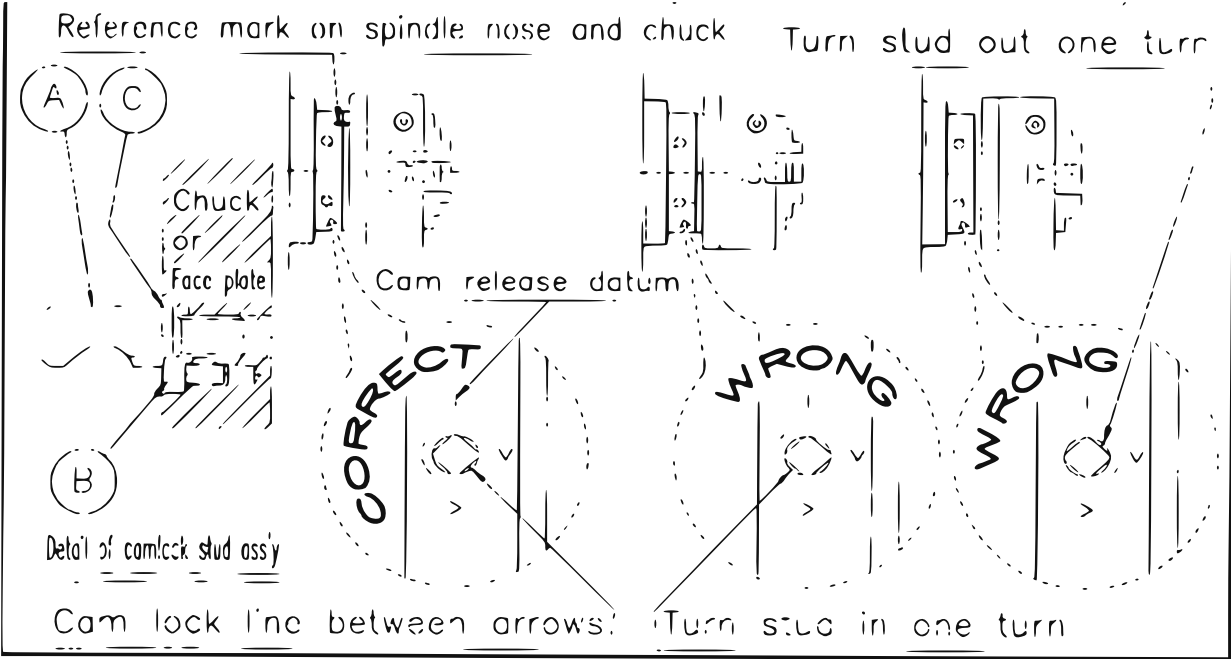

Figure 4-1: Camlock stud adjustment
- 2 When you mount a new chuck, it may be necessary to reset the camlock studs (A). Remove the hexagon socket locking screws (B).
- 3 Set each stud so that the scribed ring (C) is flush with the rear face of the chuck, with the slot lining up with the locking screw hole.
- 5 When fully tightened, check that the cam lock line on each cam is between the two V marks on the spindle nose. If any cam does not tighten fully within these limit marks, remove the chuck or faceplate and readjust the stud as shown in Figure 4-1.
- 6 Fit and tighten the locking screw (B) at each stud before you remount the chuck for work.